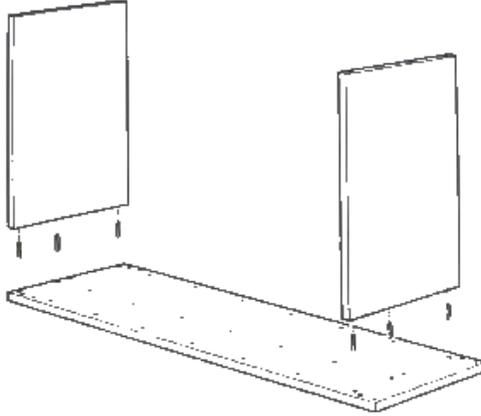

Figure 1 – Attach two short boards
2. Using three (3) wooden pegs, attach one short board onto the long board. Repeat with second short board. (Figure 1)